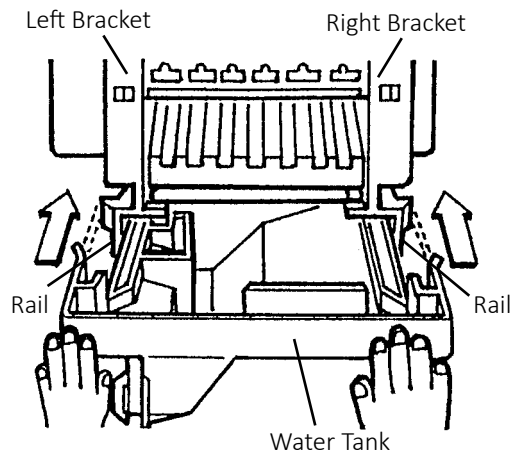

Fig. 37
14. Slide in the water tank along the rails at the bottom of the left and right brackets until it locks into place. See Fig. 37.